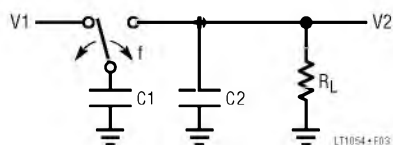

Figure 3. Switched-Capacitor Building Block
In Figure 3 when the switch is in the left position, capacitor C1 will charge to voltage V1. The total charge on C1 will be $q_1 = C1V_1$. The switch then moves to the right, discharging C1 to voltage V2. After this discharge time the charge on C1 is $q_2 = C1V_2$. Note that charge has been transferred from the source V1 to the output V2. The amount of charge transferred is:
*SEE FIGURE 3